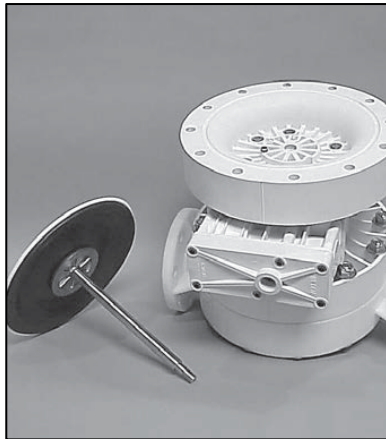

Figure 9a
1) The outer piston, diaphragm and inner piston remain attached to the shaft and the entire assembly can be removed from the center section (Figure 9a).